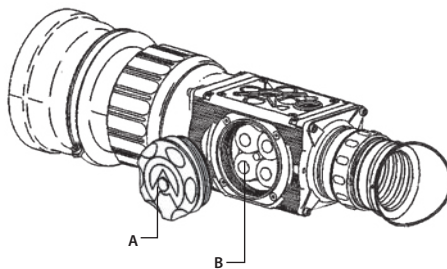

FIGURE 3-1. CR123 BATTERIES INSTALLATION
To install four (4) CR123A batteries, do the following (refer to Figure 3-1):
1. Unscrew the battery cap (A).
2. Insert the batteries (B) directly into the battery case with ALL positive terminals facing upward (or in the direction of the battery cap)